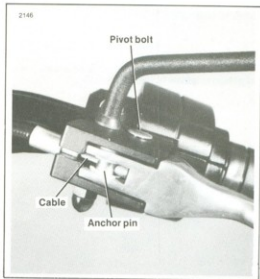
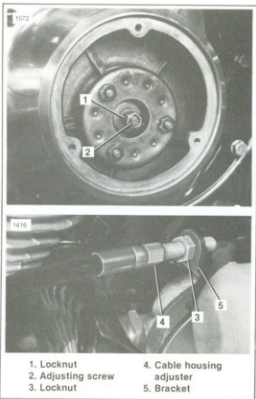

Figure 2-94. Clutch Cable Installation
Figure 2-93. Clutch Cable Replacement
2. See Figure 2-93. Remove the clutch cover and loosen the locknut (1). Turn the adjusting screw (2) outward until the clutch cable is slack.
3. Loosen the locknut (3) and turn the cable housing adjuster (4) out of the bracket (5). Remove the cable from the clutch release lever.
4. See Figure 2-94. Remove the clutch cable and anchor pin from the hand lever.
1. See Figure 2-94. Install the clutch cable and anchor pin to the clutch hand lever. The slot in the pin must face in towards the hand lever.
3. See Figure 2-93. Turn the cable housing adjuster (4) into the bracket and fasten the cable ferrule into the clutch release lever.